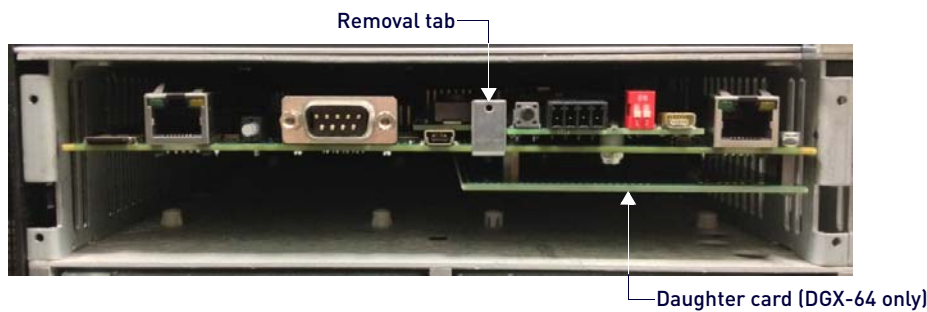

FIG. 156 Use removal tab to pull CPU straight out
5. Use the removal tab indicated in FIG. 156 to pull the CPU board assembly straight out of the enclosure.
8. Push on the CPU removal tab (FIG. 156) firmly enough for the board to make a good electrical connection (avoid pushing on the connectors). When the CPU board is fully inserted, its faceplate should sit flush with the back metal.